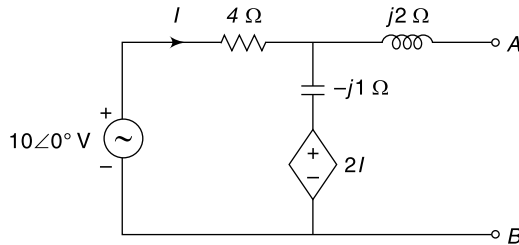

Fig. 6.33 Circuit of Ex. 6.32
6.32 Obtain Norton's equivalent network across terminals AB of the network shown in Fig. 6.33.